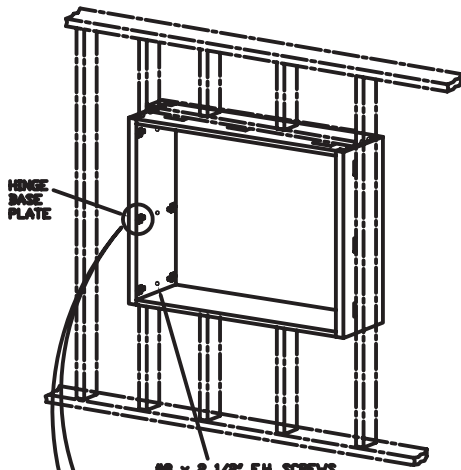
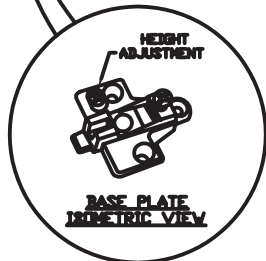

**FIGURE 2A**
**FIGURE 2B**
- 2 - PLACE THE D-42/D-50 CABINET INTO THE ROUGH CUT OUT OPENING IN WALL. (SEE ROUGH-IN DIMENSIONS FOR PASS THRU X-RAY CABINET) SHIMMING ANY OPEN GAPS AT THIS TIME. IMPORTANT: BE SURE THE CABINET IS LEVEL AND SQUARE (SEE FIGURE 2A). TURNING A SCREWDRIVER COUNTER-CLOCKWISE, REMOVE ALL (4) ANGLE SUPPORTS (SEE FIGURE 2B). ANGLE SUPPORTS CAN BE DISCARDED ONCE REMOVED. NEXT, REMOVE ALL SUPPORT PINS (SEE FIGURE 2C).